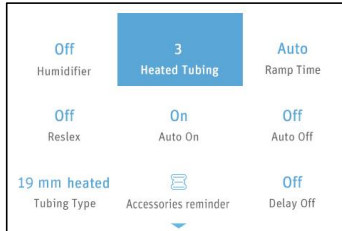

Fig. 16-3
**Note:** The **Heated Tubing** option can only be adjusted when the device is connected to the heated breathing tube, as shown in Fig. 16-3.